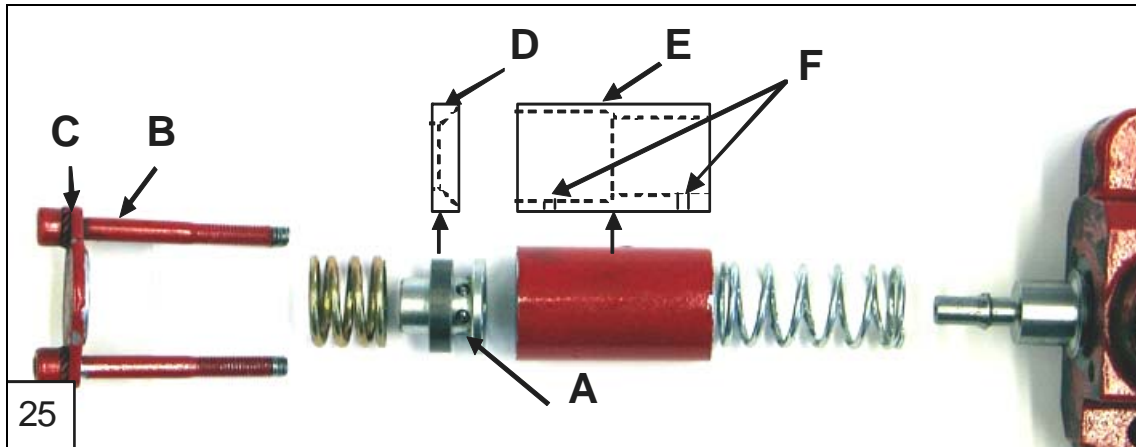

Fig. 27
9.16 Structure of the detent end and the correct order of the parts, Fig. 27